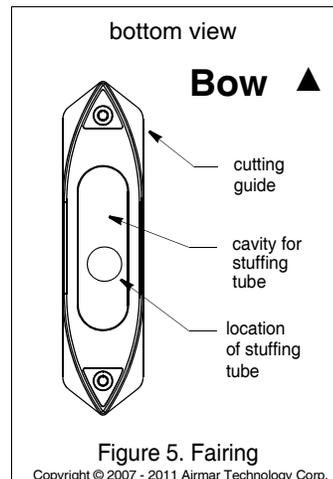

Figure 5. Fairing
6. Check the fit by placing the fairing against the hull. **Be sure the fairing is parallel to the centerline of the boat** (keel), and the stuffing tube is about 2/3 of the way back in the cavity (Figure 5). Hold the fairing on the ends and try to rock it back and forth. Shape the fairing to the hull as precisely as possible with a rasp or power tool until it no longer rocks.